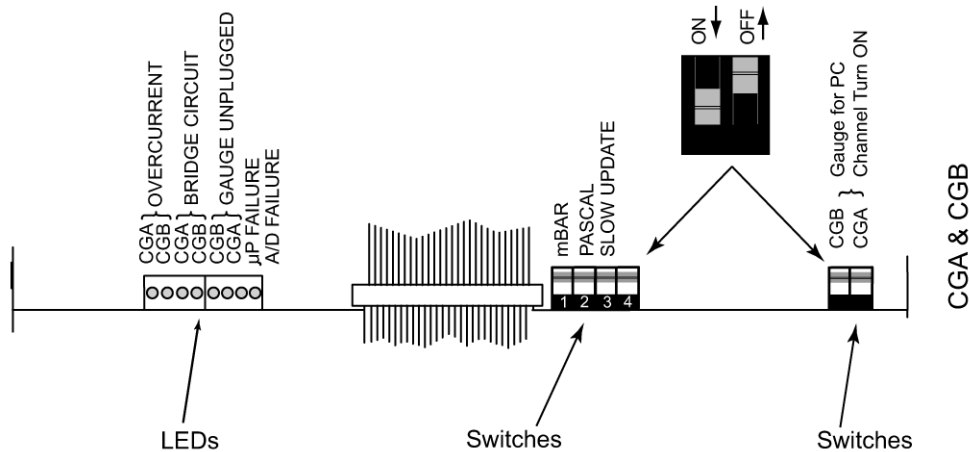

Figure 6-1 Convectron Module - Top View (Controller Cover Removed)
3. Locate the Convectron gauge module. See Figure 4-2, Figure 6-1, and Figure 6-2.
4. Locate the mbar and pascal units switches. See Figure 6-1.
Depending on the switch position of the two internal selector switches shown in Figure 6-1, either CG "A" or CG "B" can be used to control the process relay. The process relay turn ON occurs when the selected CG pressure drops below the setpoint defined by the process relay adjust potentiometer (see Figure 6-2). The process relay will also automatically turn OFF when the pressure rises slightly above the setpoint. To disable the process relay, adjust the process relay turn-ON potentiometer (Figure 6-2) completely counterclockwise to the OFF position.
CG "B" Select Switch - See Figure 6-1.
CG "A" Select Switch - See Figure 6-1.